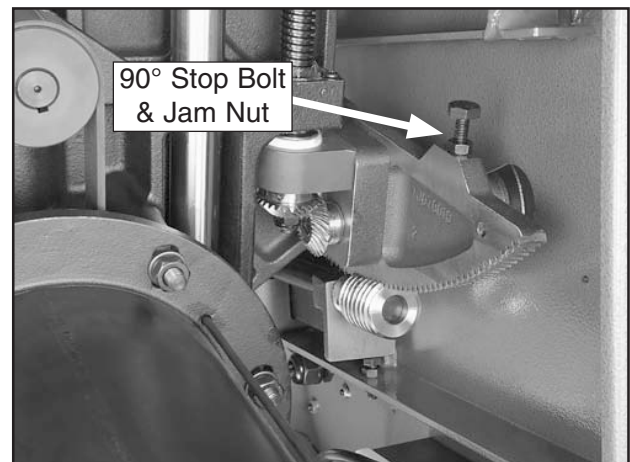

Figure 123. 90° stop bolt and jam nut.
5. Open the motor access cover, loosen the jam nut shown in **Figures 123–124**, adjust the stop bolt up or down according to how far off the blade was from 90°, then repeat **Step 3** until the blade stops at 90°.